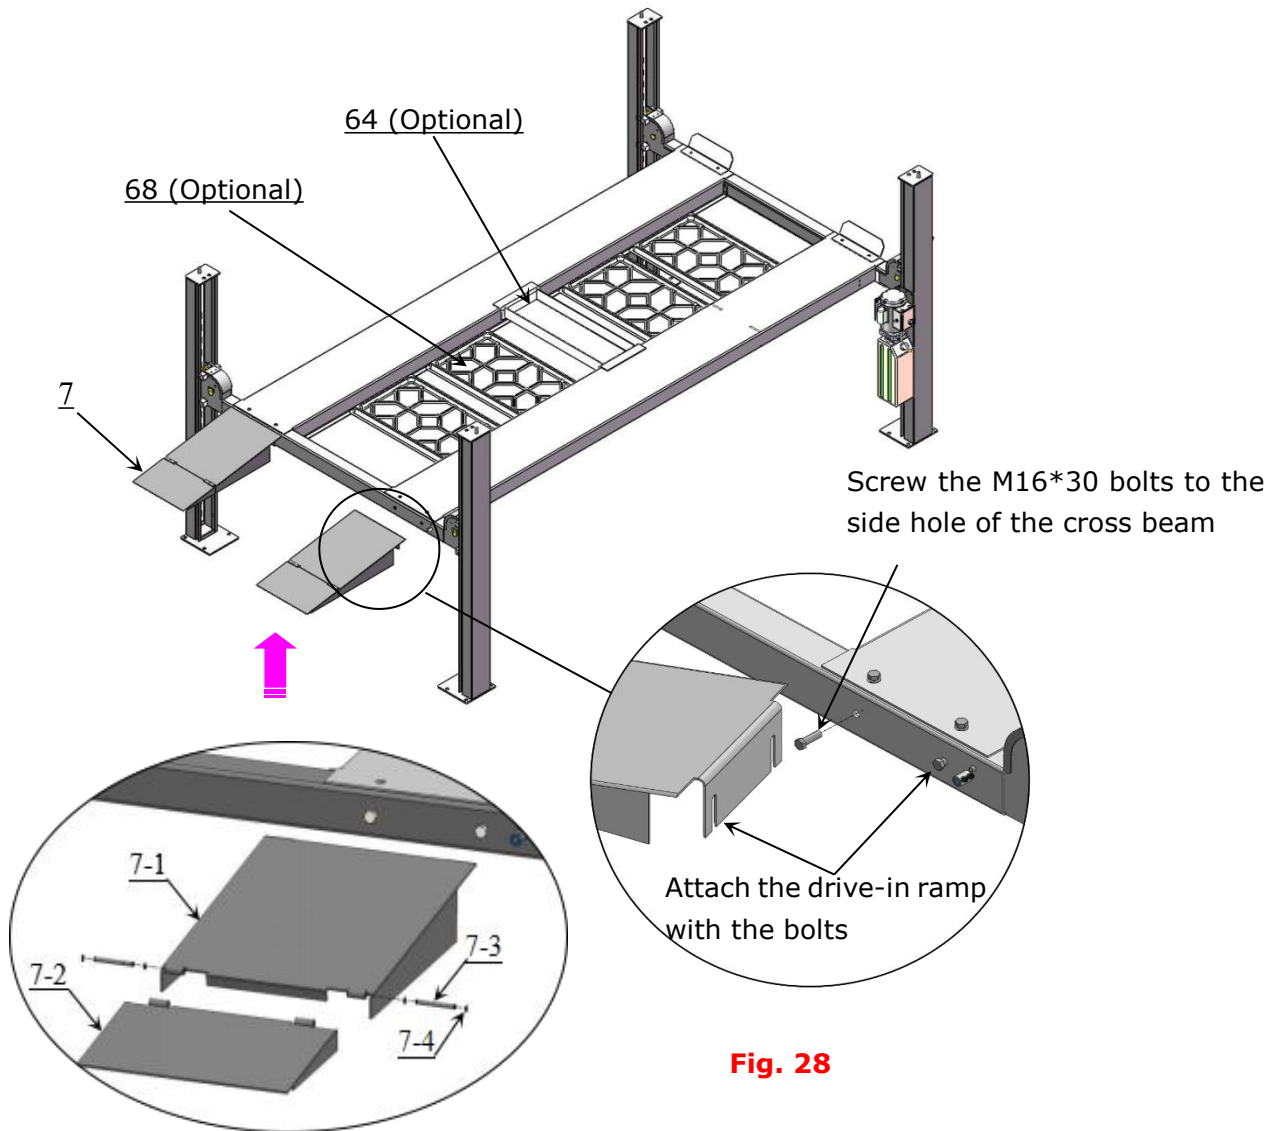

Fig. 28
N. Install drive-in ramp, optional jack tray and optional plastic oil pans (See Fig. 28).